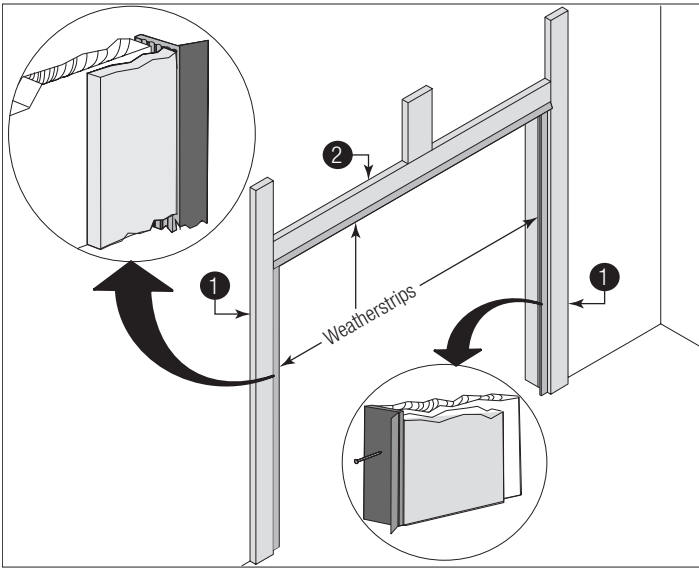

Figure 49, Weatherstrips
**IMPORTANT:** Whenever adjusting extension spring length for door balance, always open the door to the fully open position and return the locking pliers, as shown in Figure 49 to the horizontal tracks below the bottom track rollers.
See Figure 49 for the following steps.